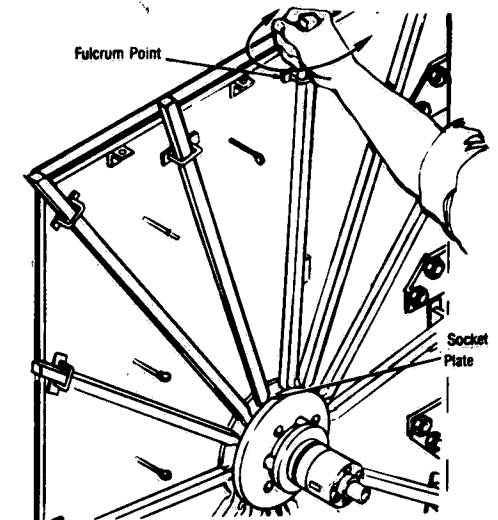

Figure 7-5. ARM TEST, RADIAL ARM.
a. **Arm Test.** See Figure 7-5. Twist radial arm about its own axis. Arm should not be loose at intersection of end frame and radial arm or intersection of fulcrum point and radial arm. Side play at socket plate is acceptable if chamber is not pressurized.